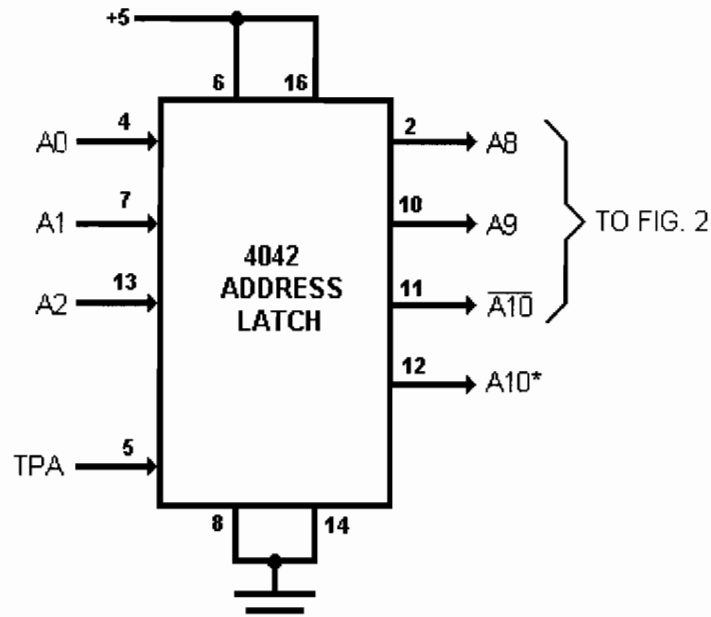

Fig. 1. Address latch. \*Connect pin 19 of original 2101 RAM's to A10 instead of ground.
**Memory Expansion.** You can add 1024 bytes of memory to an Elf microcomputer using inexpensive, readily available 2102-type static RAM's as shown in Figs. 1 and 2. The 10k bus pull-up resistors are required if the high-output level of the RAM chips isn't at least 3 volts. Bits 0 and 1 of the high-order address byte are clocked into the address latch with TPA (Fig. 1). These two latched bits are used with the low-order COSMAC address byte to provide the required 10-bit address for the 2102 RAM's. Bit 2 of the high-order address byte is clocked into the address latch for use in selecting either the original 256-byte RAM or the added 1024-byte section of RAM. Disconnect pin 19 of the original two 2102 RAM chips from ground and connect to pin 12 of the 4042 address latch in Fig. 1.
The original 256-byte memory will now be addressed as 0000-00FF and the new 1024-byte memory will be addressed as 0400-07FF. Since all of the previous programs assumed one-byte addresses, they will *not* run in this expanded memory system. Programs for systems with more than 256 bytes of memory must have both the high-order and low-order bytes of address registers properly set. The previous programs can be easily modified to run in the expanded system by initializing both high- and low-order bytes of any 16-bit register used to address memory. The foregoing counting program could be modified to run at M(0000) in an expanded RAM system as shown in Program 5. In general, it adds only a few bytes to program for an expanded-memory system. By adding bits to the address latch of Fig. 1, you could address up to 64k bytes of RAM. Instead of addressing extra memory, the high-order address bits could be used to select input/output circuits or devices.